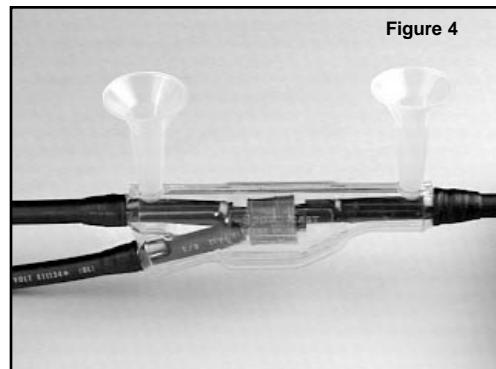

Figure 4
- 5.2 Put pouring spouts in holes. See Figure 4.